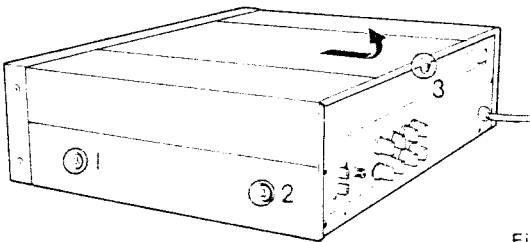

Fig. 1
Remove screws ① and ② from the both left and right sides and screw ③ in Fig. 1. Slide cover away from the front panel, remove the top cover by lifting.